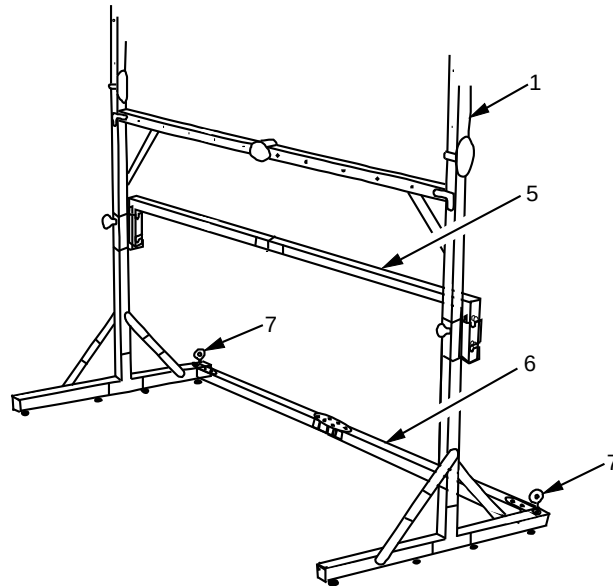
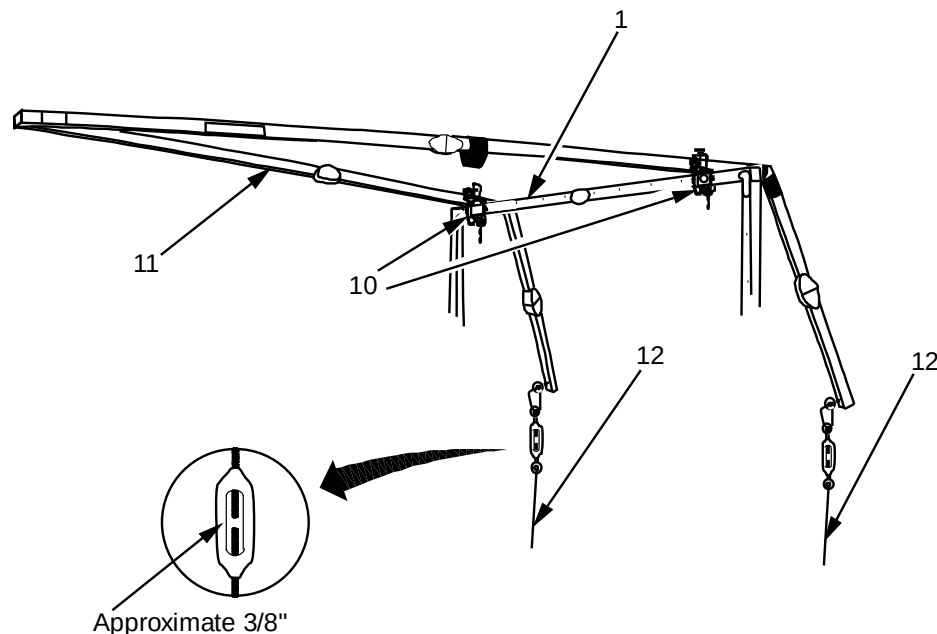

Figure 3. Install Upper and Lower Support Crossbar.
Figure 7. Attach Projector Support Arm and Hinged Clamps.
6. Secure the upper support crossbar (5) to the screen frame (1) by placing each side in position and tapping down to seat the brace rivets into the respective brackets. Seat both sides of the upper brace into the brackets uniformly to prevent binding (see Figure 3).
12. Expand the projector support arm and ensure all hinges are securely latched. Secure one side of the Projector Support Arm (11) to a rotating hinged clamp (10) using the marked position on the similar side of the projector support arm rail (11). Extend the Projector Support Arm (11) sideways and secure the second projector support arm rail (11) to the second rotating clamp (10) (see Figure 7).
13. Secure the two adjustable steel cables (12) to the two eye bolts on back of the projector support arm rails (11) with the turnbuckles closest to the projector support arm eye bolts. This allows for better adjustment accessibility in later steps.
14. Secure the two adjustable steel cables (12) to the two eye bolts (7) (see Figure 3) on the rear legs of the screen frame.
15. Adjust the steel cable (12) turnbuckles so that the spacing between the ends of the threaded eye bolts as viewed through the turnbuckle is approximately 3/8 inch as shown in Figure 7. This speeds image adjustment later by placing the gap close to where it should be.